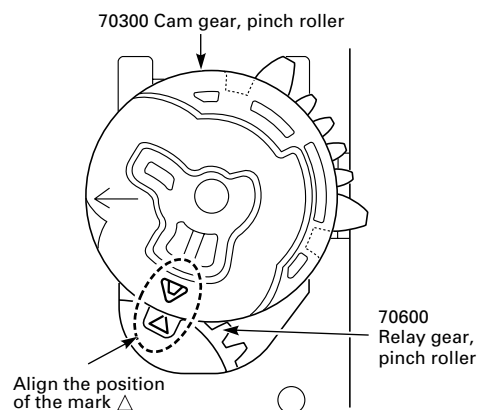

Fig. 8.31
- Position the cam gear of the pinch roller (70300) and the relay gear of the pinch roller (70600) as shown in Fig. 8.31.